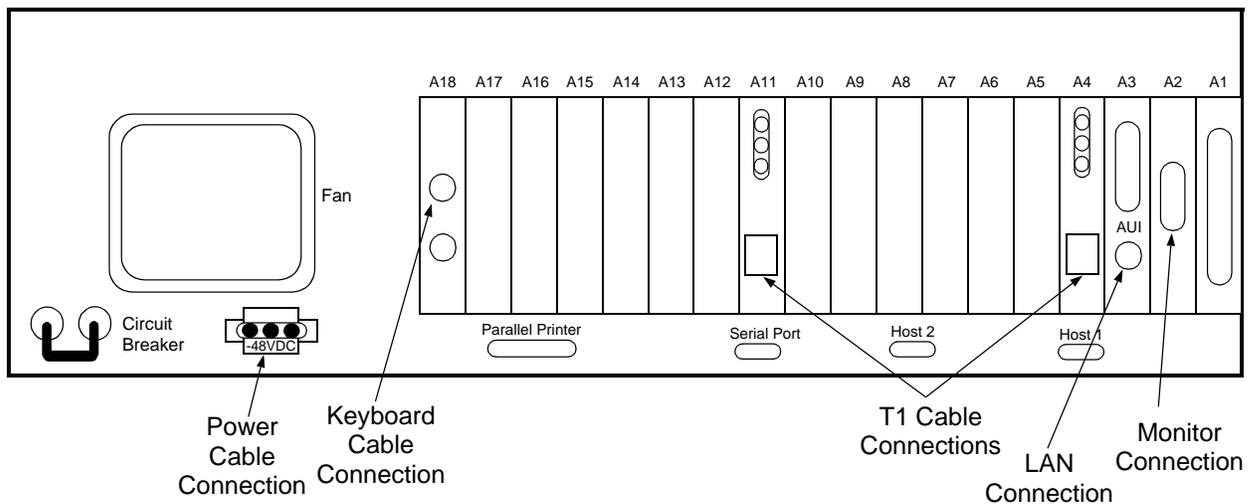

Figure 2. CDSU-I Cable Connections
3. Disconnect the following cables from the rear of the CDSU-I (Figure 2):